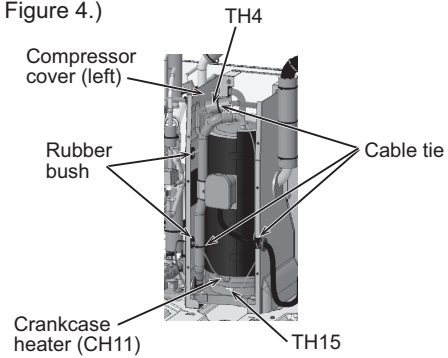

Figure 3
- (3) Cut the three cable ties holding TH4, TH15 and Crankcase heater (CH11), and remove the wiring from the rubber bush on the left compressor cover. (See Figure 3.)